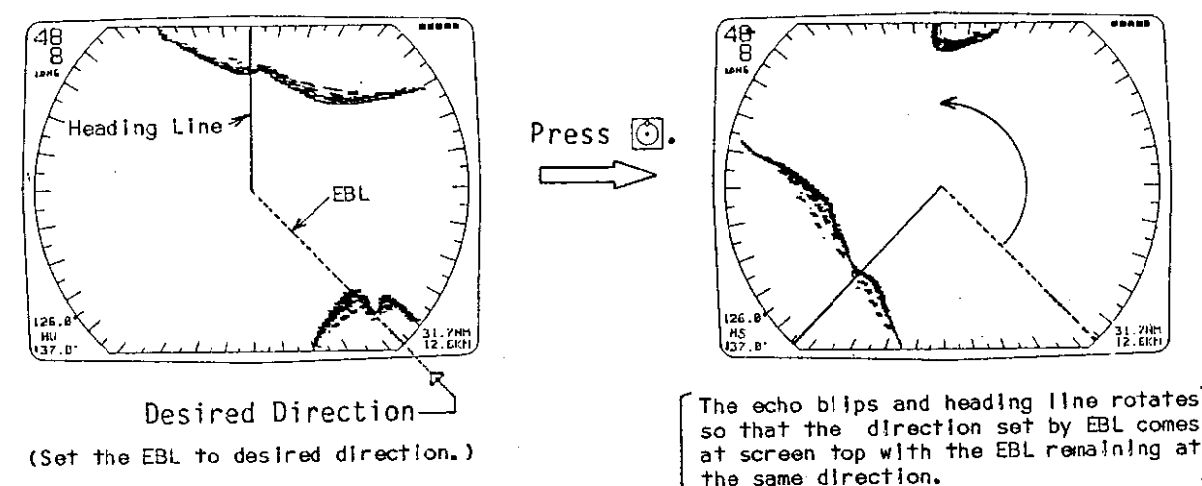

Fig.2-8 Heading-set Mode (With Gyrocompass connected)
- 2) Press the  touchpad. The picture will turn so that the bearing of the EBL is at the top of the screen as shown in Fig.2-8.